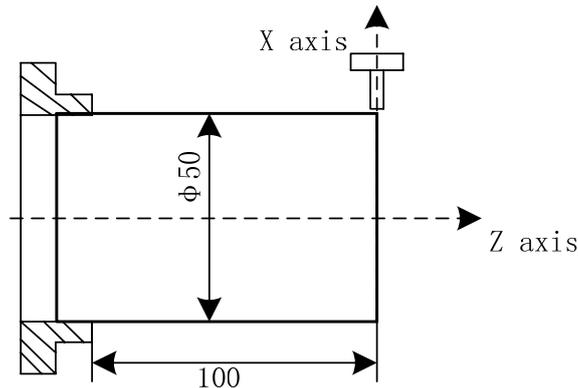

Fig.10-4
- (6) Traverse the tool to the safe position, press the tool change key to execute No.2 tool in Manual mode;
- (7) Start the spindle and traverse the tool to the toolsetting point as shown in Fig.10-4, point A;